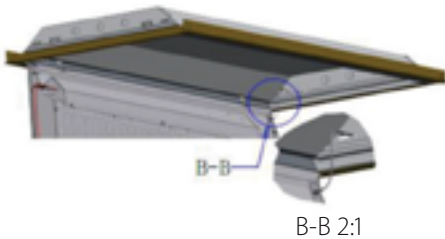

Fig. 1-4
- 1.) With the provided self tapping screws attach safety cable into the existing fixture. (Fig. 1-4)